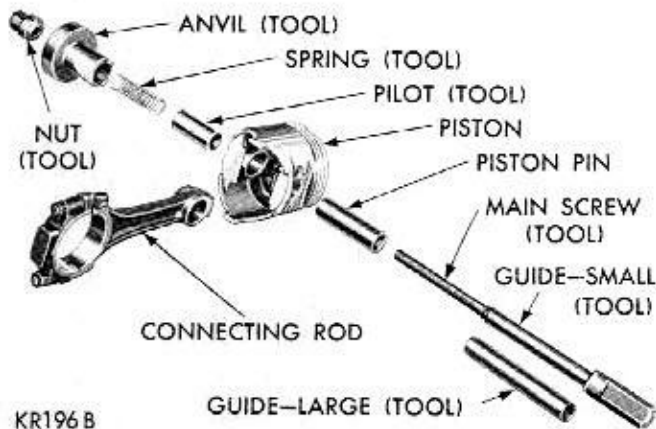

Fig. 35—Tool Arrangement for Installing Piston Pin
(1) Measure piston pin fit in the piston. It should be a sliding fit in piston at 70 degrees F. Piston pins are supplied in standard sizes only.
(2) Lubricate piston pin holes in piston and connecting rod.
(3) Arrange tool parts for installation of piston pin (Fig. 35).
(4) Install spring inside the pilot and install spring and pilot in the anvil.
(5) Install piston pin over main screw.